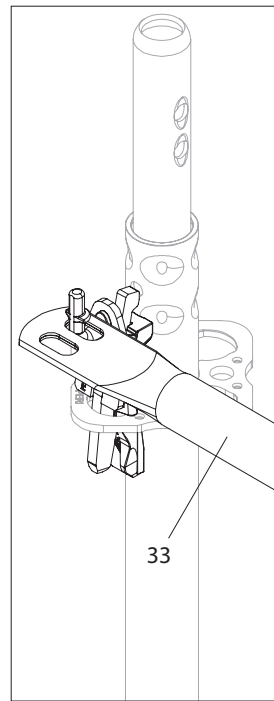

Fig. A11.03b
2. Hang the Guardrail Posts EPG (33) and intermediate guardrails on the guardrail hooks. (Fig. A11.03b + A11.03c)